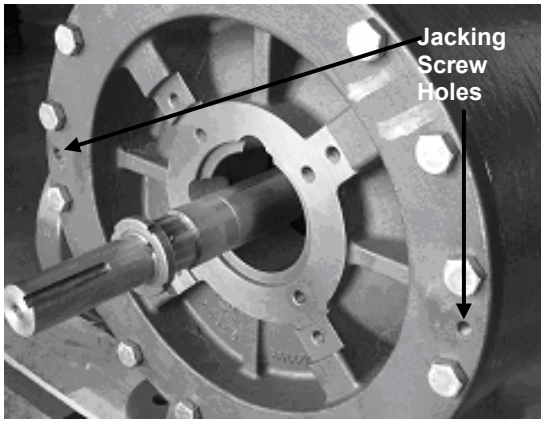
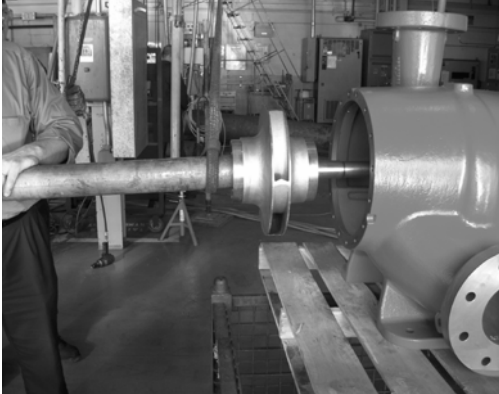

Figure 34: Removing the Coverplate Using Jacking Screws
Figure 41: Installing the Shaft Assembly
1. Ensure shaft threads are protected using tape or nuts. (See Figure 34.)
2. Remove the coverplate capscrews. Using jacking screws, pull the coverplate from the volute. (See Figure 34.)
9. Insert the shaft assembly into the volute. (See Figure 41.) Ensure that the shaft threads are protected using tape or nuts. (See Figure 34.)